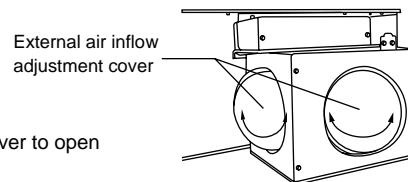

Fig.5
- (5) Open the external air inflow hole (150mm diameter) connecting the external air ducting (see Fig.5).
Cut the joiners at left and right of the external air inflow hole with a pair of cutters and rotate the cover to open (see Fig.5).
As with intake adjustment, cut the joiners at left and right and rotate the cover repeatedly to remove (see Fig.5).